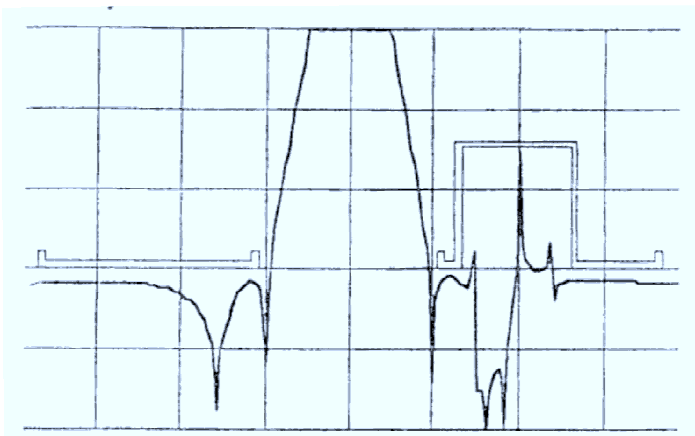

Figure 2. Stopband Specification with Spurious
- Crystal filters can have “spurious” responses in their stopbands (Figure 2). *Can I allow spurious responses above my normal stopband requirement?* Specify the frequency range and attenuation level that is acceptable.